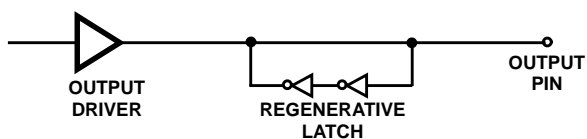

FIGURE 10. OUTPUT DRIVER AND LATCH FOR PINS AD0-AD7, A8-A15 AND IO/M.
1. An important caveat that is applicable to CMOS devices in general is that unused inputs should never be left floating. This rule also applies to inputs connected to a tri-state bus. The need for external pull-up resistors during tri-state bus conditions is eliminated by the presence of regenerative latches on the following HS-80C85RH output pins: AD0-AD7, A8-A15, and IO/M. Figure 10 depicts an output and corresponding regenerative latch. When the output driver assumes the high impedance state, the latch holds the bus in whatever logic state (high or low) it was before the tri-state condition. A transient drive current of approximately $\pm 1.0\text{mA}$ at 0.5VDD for 10nsec is required to switch the latch. Thus, CMOS device inputs connected to the bus are not allowed to float during tri-state conditions.